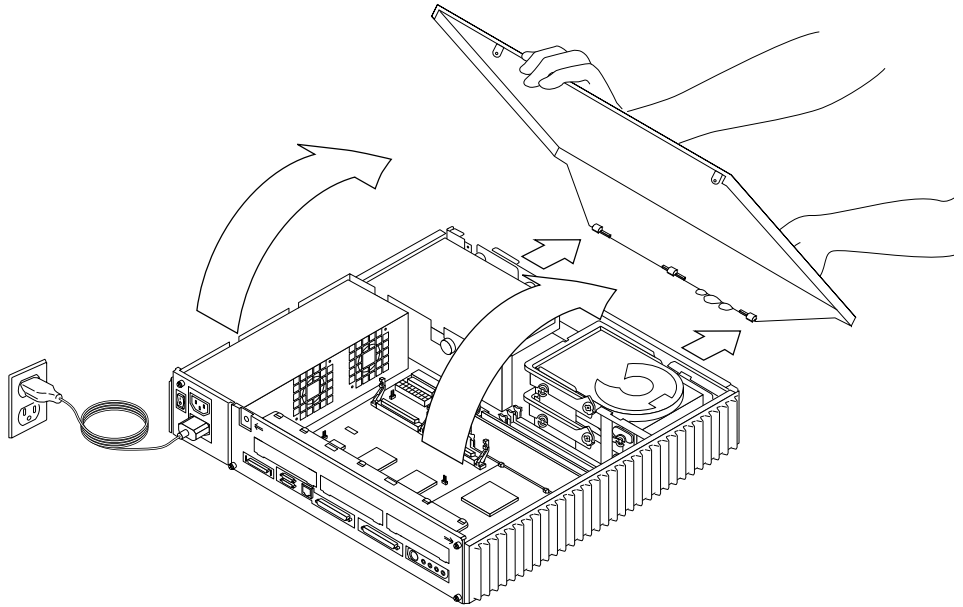

FIGURE 7-2 Removing the Cover
4. Lift the cover free of the chassis as shown in FIGURE 7-2.